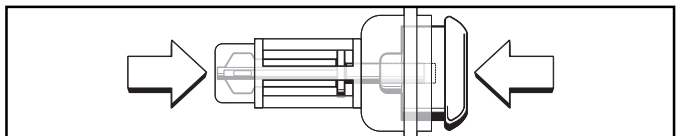

Figure 6
1.3.10 Place the inflator button(22) inside the top of the push rod housing, with the opening facing down over the push rod stem. Squeeze the push rod and inflator button between thumb and forefinger to fit them securely together (see Fig. 6).